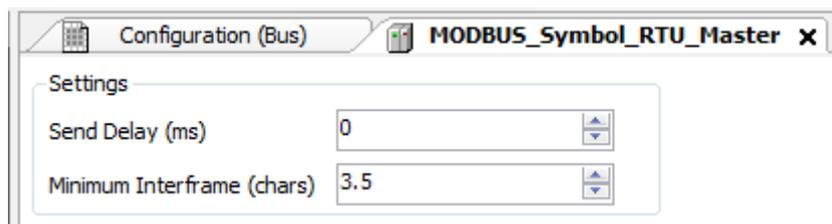

Figure 70: MODBUS RTU Master Configuration Screen
- Configure the general parameters of the MODBUS Master protocol, like: transmission delay times and minimum inter-frame as in Figure 70.